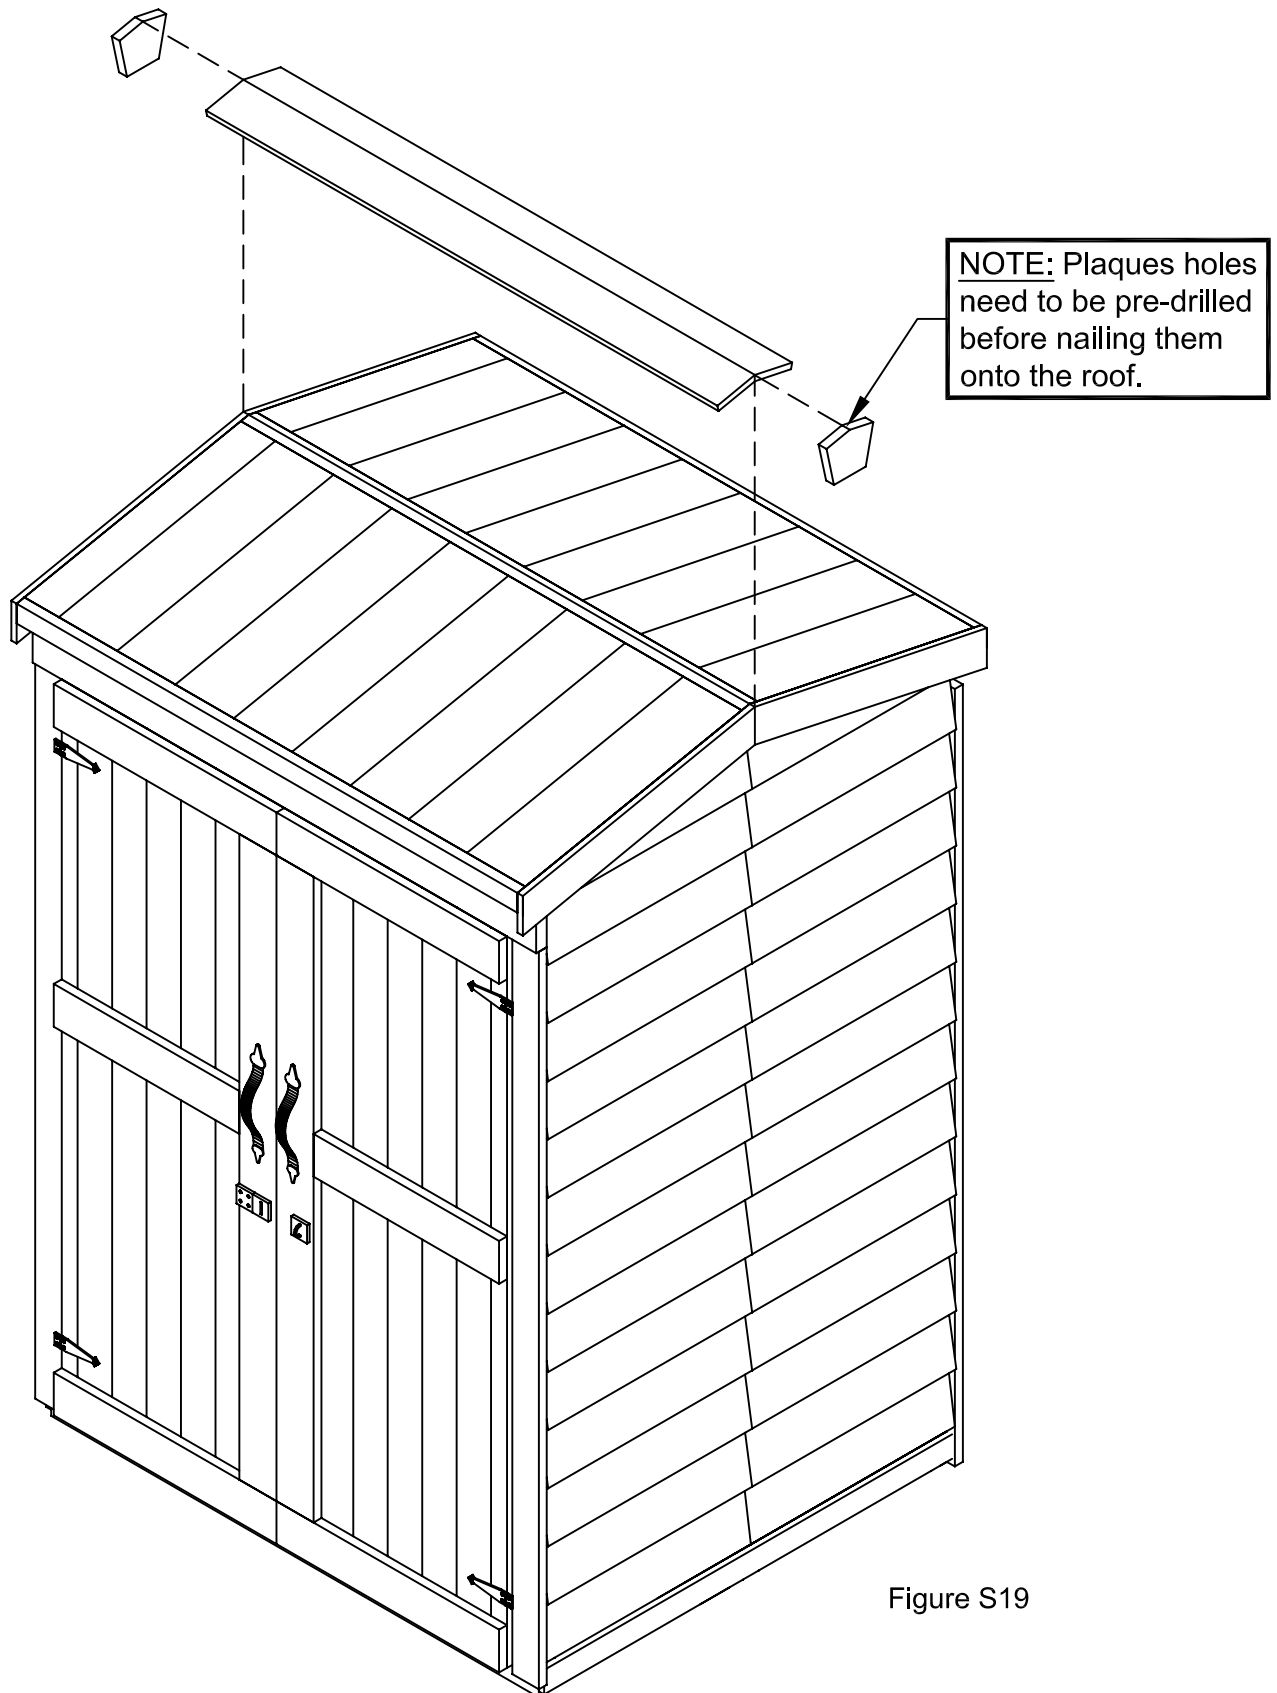

Figure S19
23. Fasten the ridge cap to the roof panel, use 1  $\frac{3}{4}$ " finishing nails as shown Figure S19. Lastly fasten the two pentagon plaques on both ends with 2 - 1  $\frac{3}{4}$ " finishing nails.